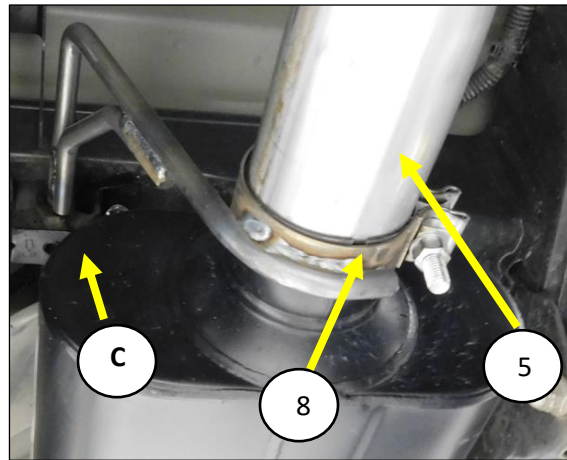

Figure 4
9. Install the clamp hanger (8) straight rod into the rear muffler hanger isolator (C) above the muffler. Install the clamp side over the muffler outlet pipe. **Fig.4**
12. Install the tailpipe (5) into the muffler outlet. Tighten the clamp hanger to hold the tailpipe, but allow for adjustment. **Fig.4**